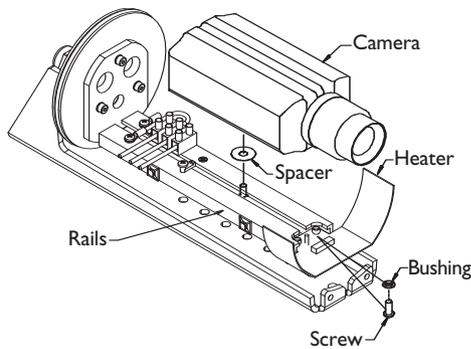

FIGURE 5 Mounting a Fixed Lens Camera
**Fixed Lens Cameras:** Position the camera/lens so that the lens is positioned over the heater but not past it. Secure the camera to the rail assembly with the 1/4-20 x 3/8in. BHC screw, a nylon bushing, and a 0.4mm (0.016in.) plastic spacer. Place the nylon bushing over the screw and slide both between the rails through the front cut-out section. Slide the spacer over the screw so it is positioned in-between the rails and the camera. See FIGURE 5.